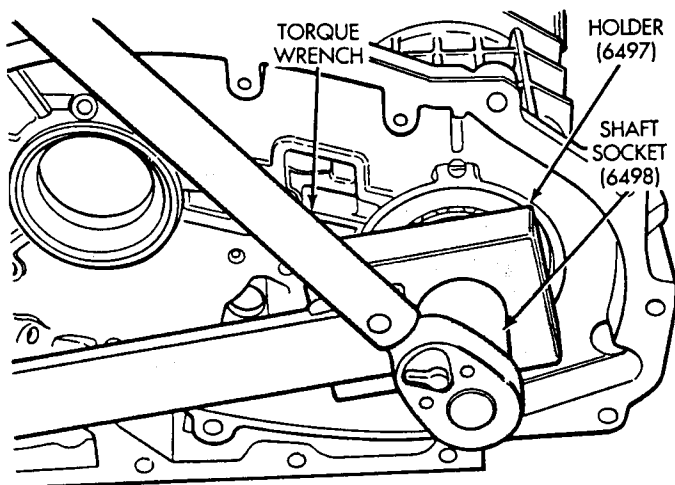

Fig. 34 Transfer Shaft Nut Installation
(39) Install a new transfer shaft nut (Fig. 34). Tighten nut to 271 N·m (200 ft. lbs.). Use special tools 6497 holder and 6498 shaft socket to tighten nut.